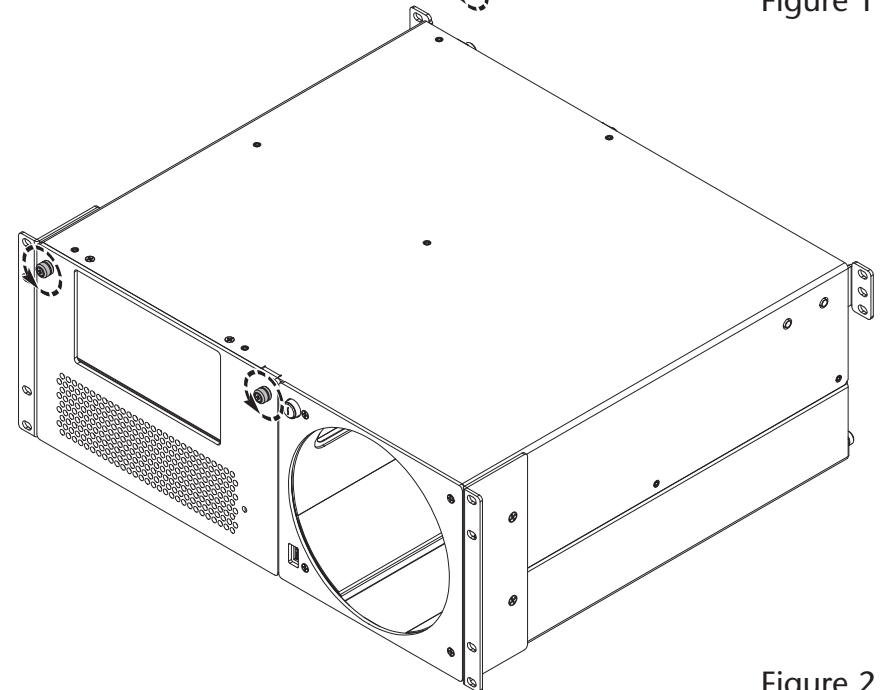

Figure 2
3. Loosen the two thumbscrews securing the PCIe card expansion module to the front of the rackmount enclosure (**Figure 2**).